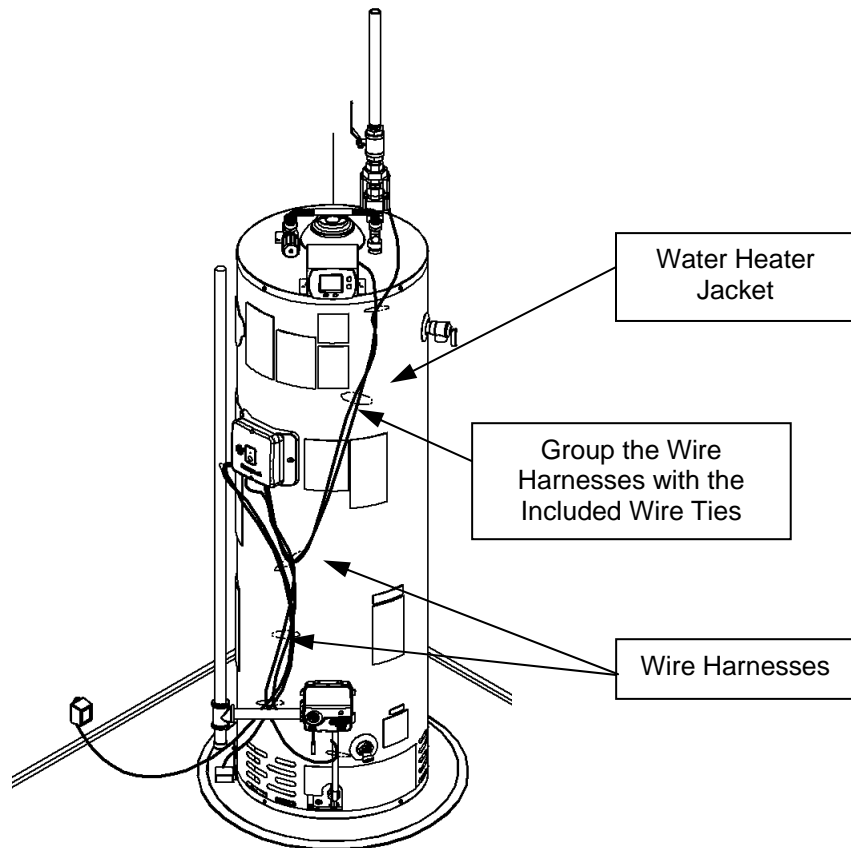

Figure 105
Step 4: Route the wire harnesses along the jacket and group them using the included wire ties. This is shown in Figure 105.